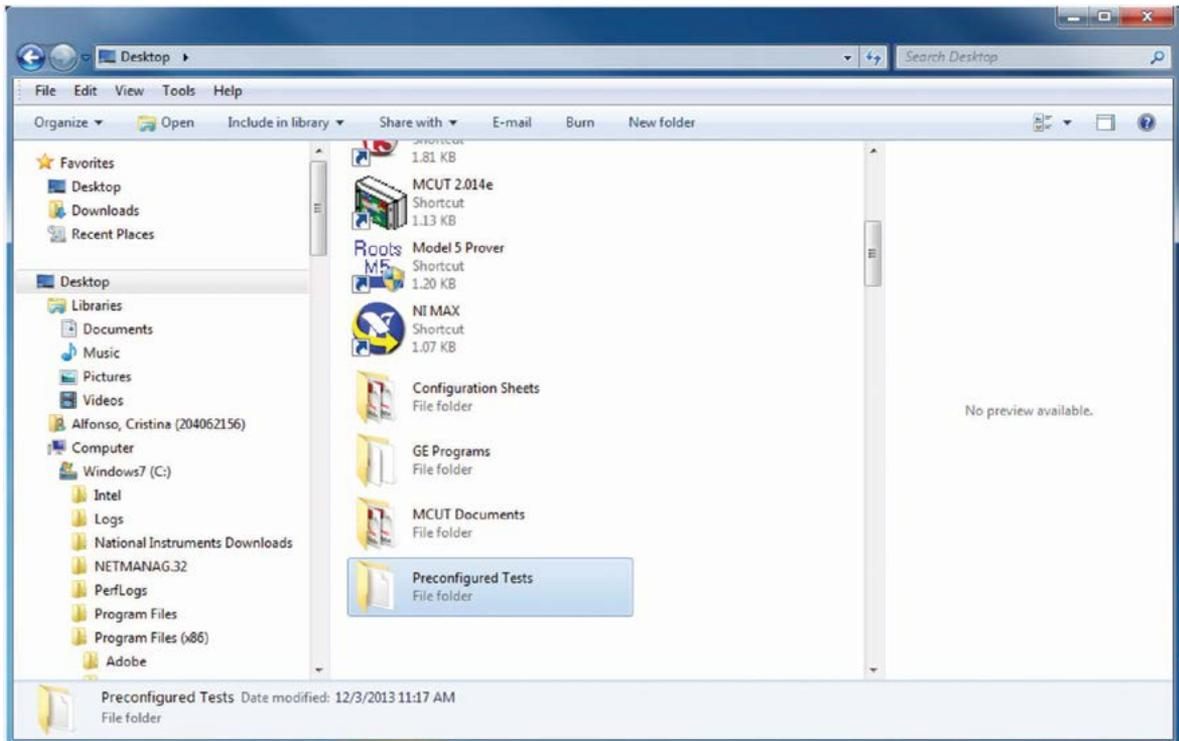

Figure 20: Preconfigured Tests in Desktop
20. Upon selecting “Paste” the computer will begin to copy files. Once completed, a new folder will appear as shown in **Figure 20**.